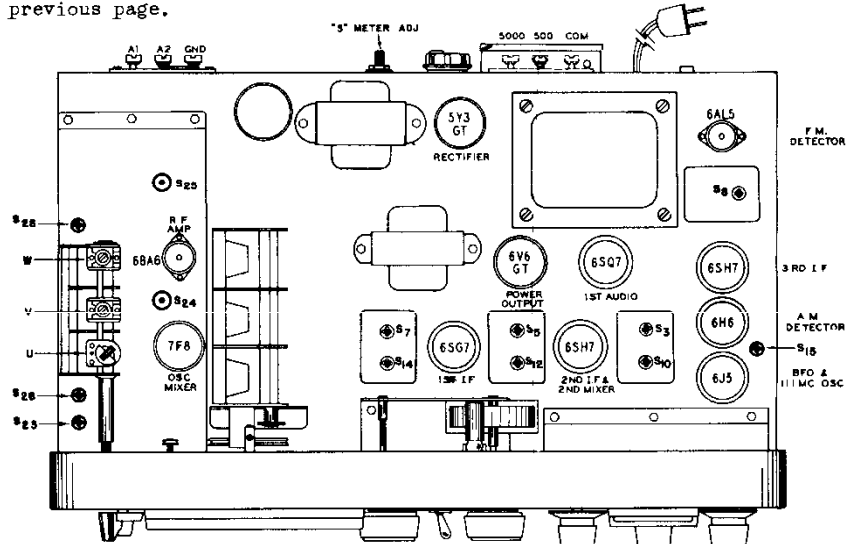

Fig. 3. Alignment adjustments, top view.
3. Set "S" METER ADJ. (See Fig. 3.) on rear chassis apron for zero on the CARRIER LEVEL meter.